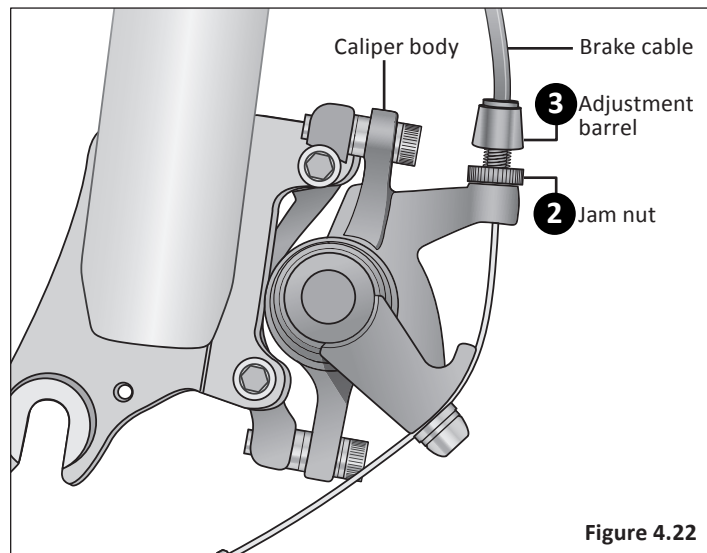

Figure 4.22
- 2 At the caliper body, or brake lever, slightly loosen the jam nut that is next to the adjustment barrel. **Figure 4.22**